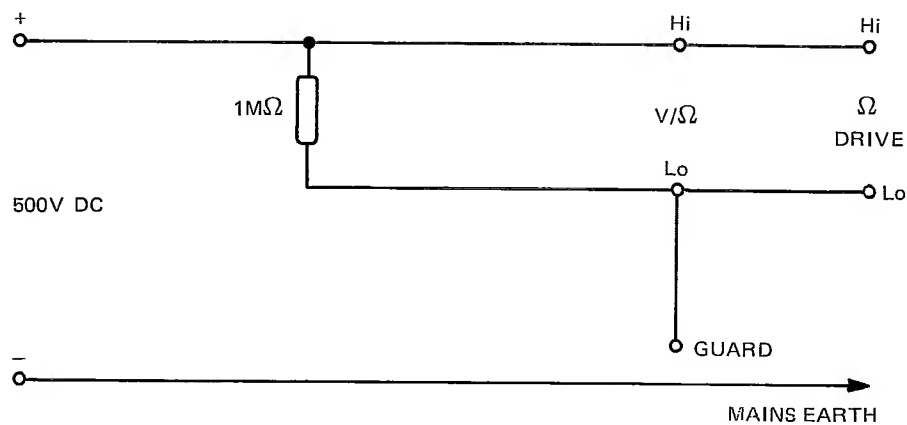

Fig. 5.4
1. Connect the instrument as shown in Fig. 5.4.